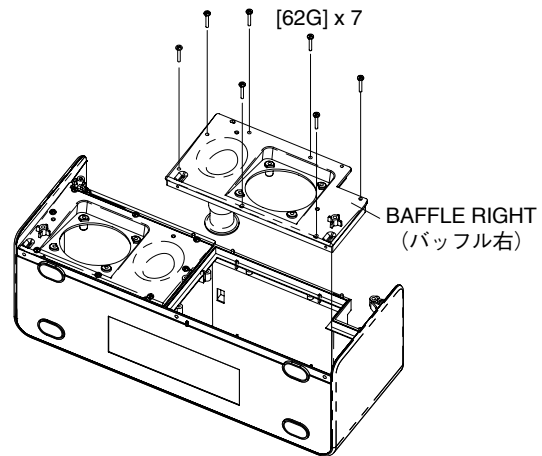

Fig. 10 (図10)
- 9-2. Remove the seven (7) screws marked [62G]. The battery assembly can then be removed. (Fig. 10)
- 9-2. [62G] のネジ7本を外して、バッフル右を外します。(図10)